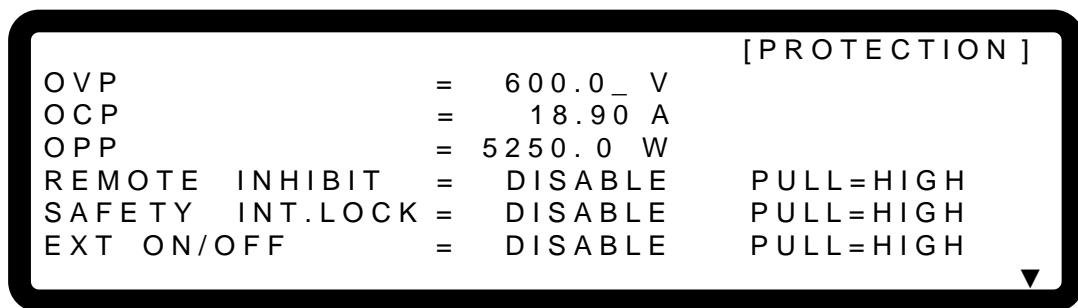

Figure 3-73
1. Use the “” keys to move the cursor to the column to be set as shown in Figure 3-73.